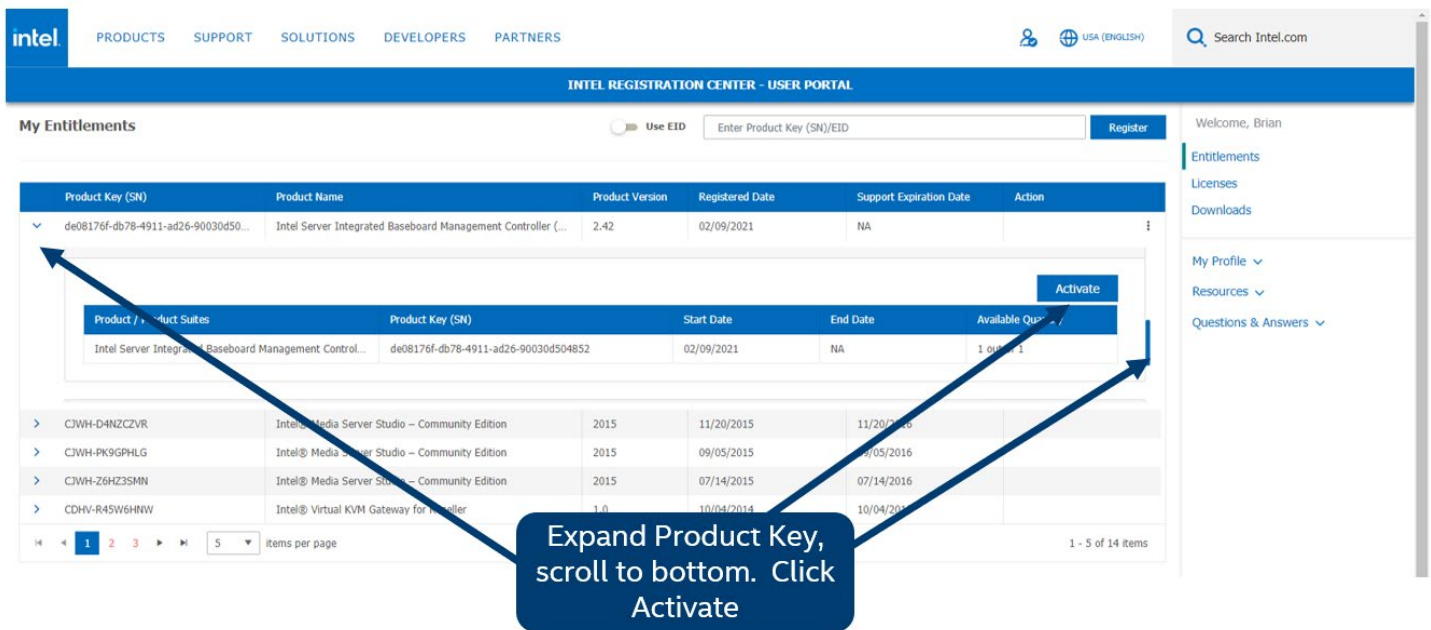

Figure 54. Activate Key
- To activate the license, click on the right arrow symbol to expand the view, scroll to the bottom and click on the Activate button. (see Figure 54)